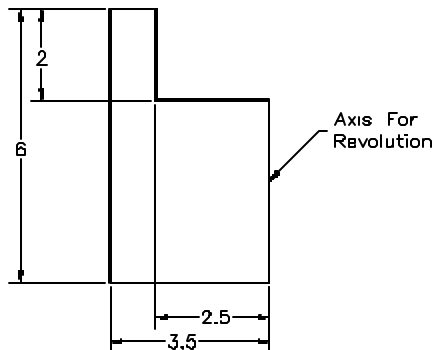

Figure 24-94 Sketch for the next feature
3. Rotate the UCS about the X axis through an angle of 90 degrees. Draw the sketch for the next feature and convert into a region, see Figure 24-94.